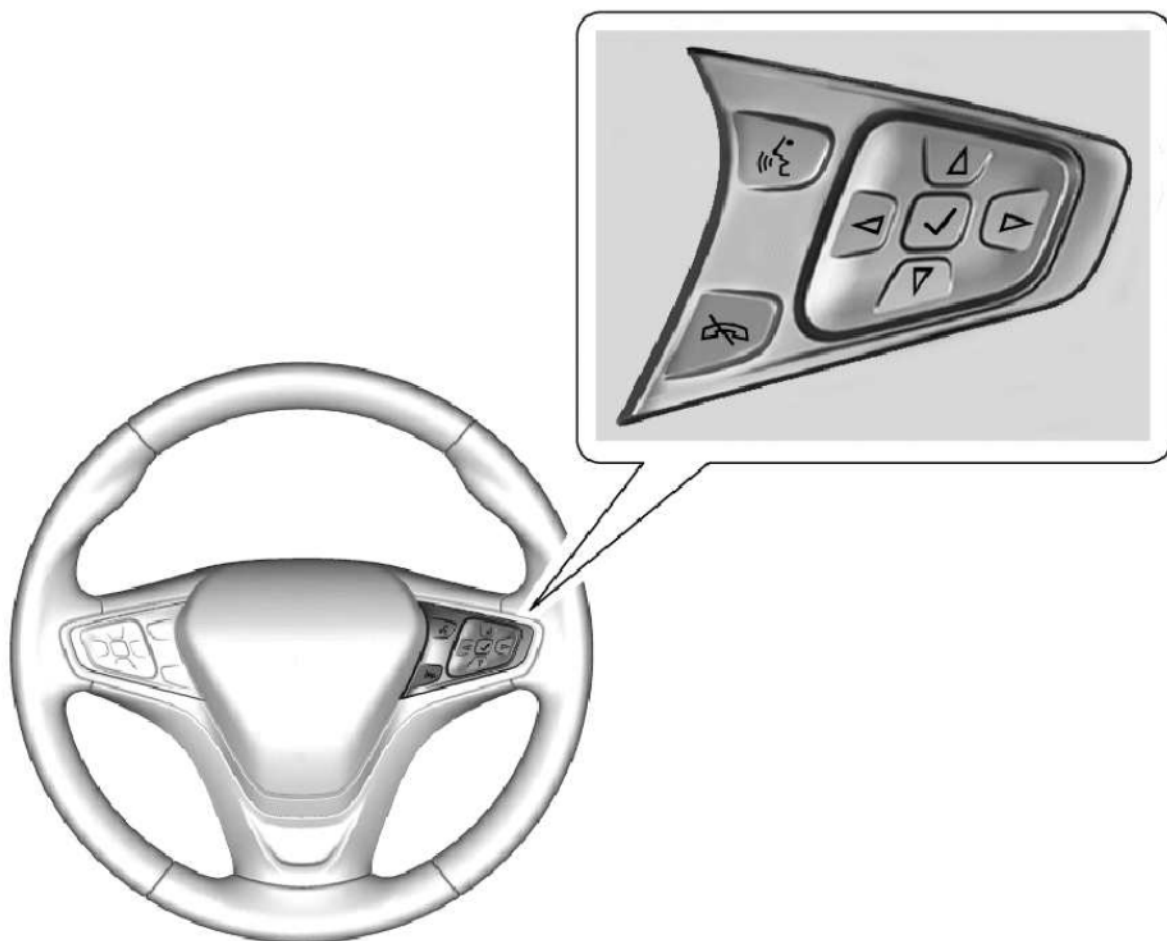

Fig. 1: Identifying DIC Controls (Steering Wheel - Typical)
1. Using the DIC controls on the right side of the steering wheel (see Fig. 1), display REMAINING OIL LIFE on the driver information center (DIC).